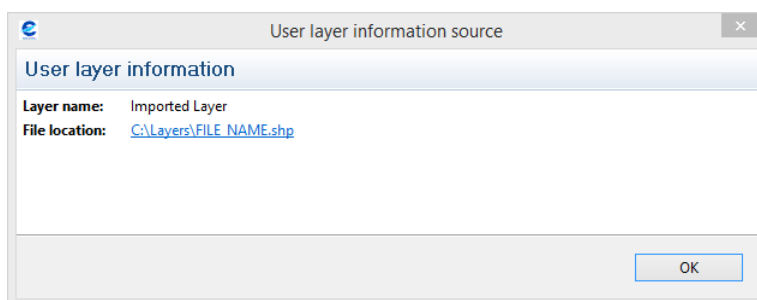

Figure 30: User imported layer information
- This action will pop up a window which will show the layer information (Figure 30). By clicking on the layer file's location on the disk, the system will automatically open the real location of the layer inside the user's computer.